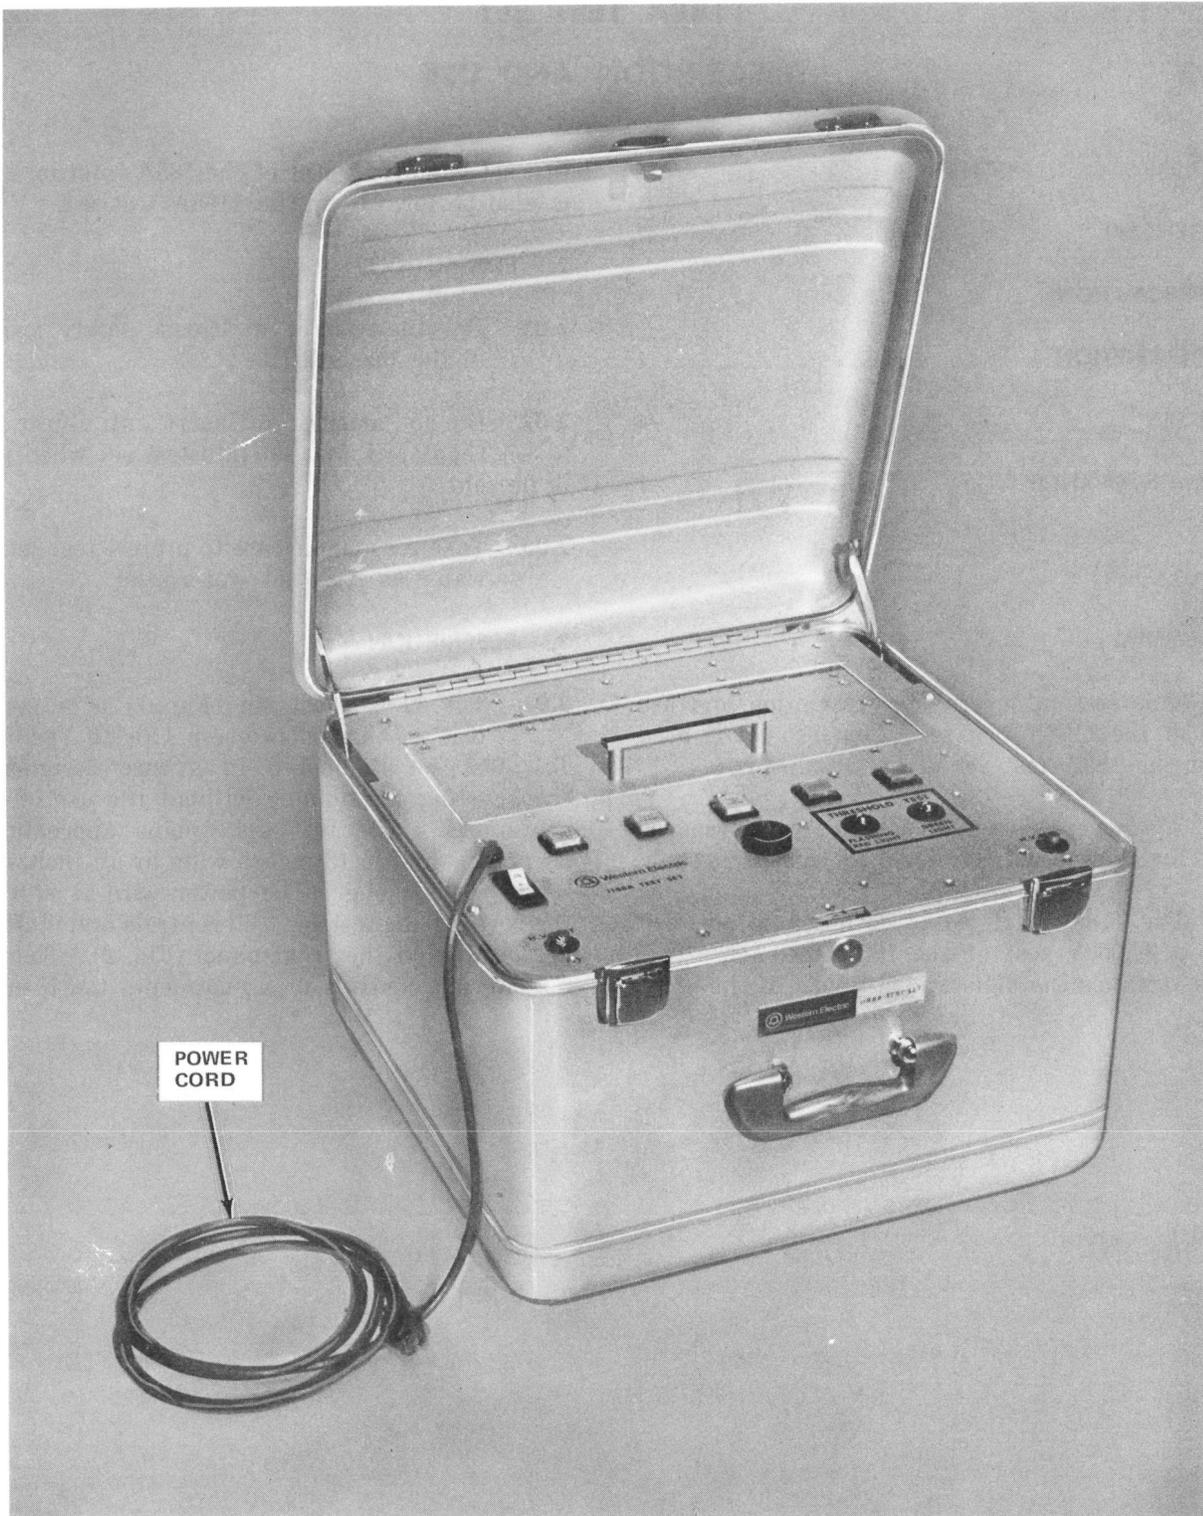
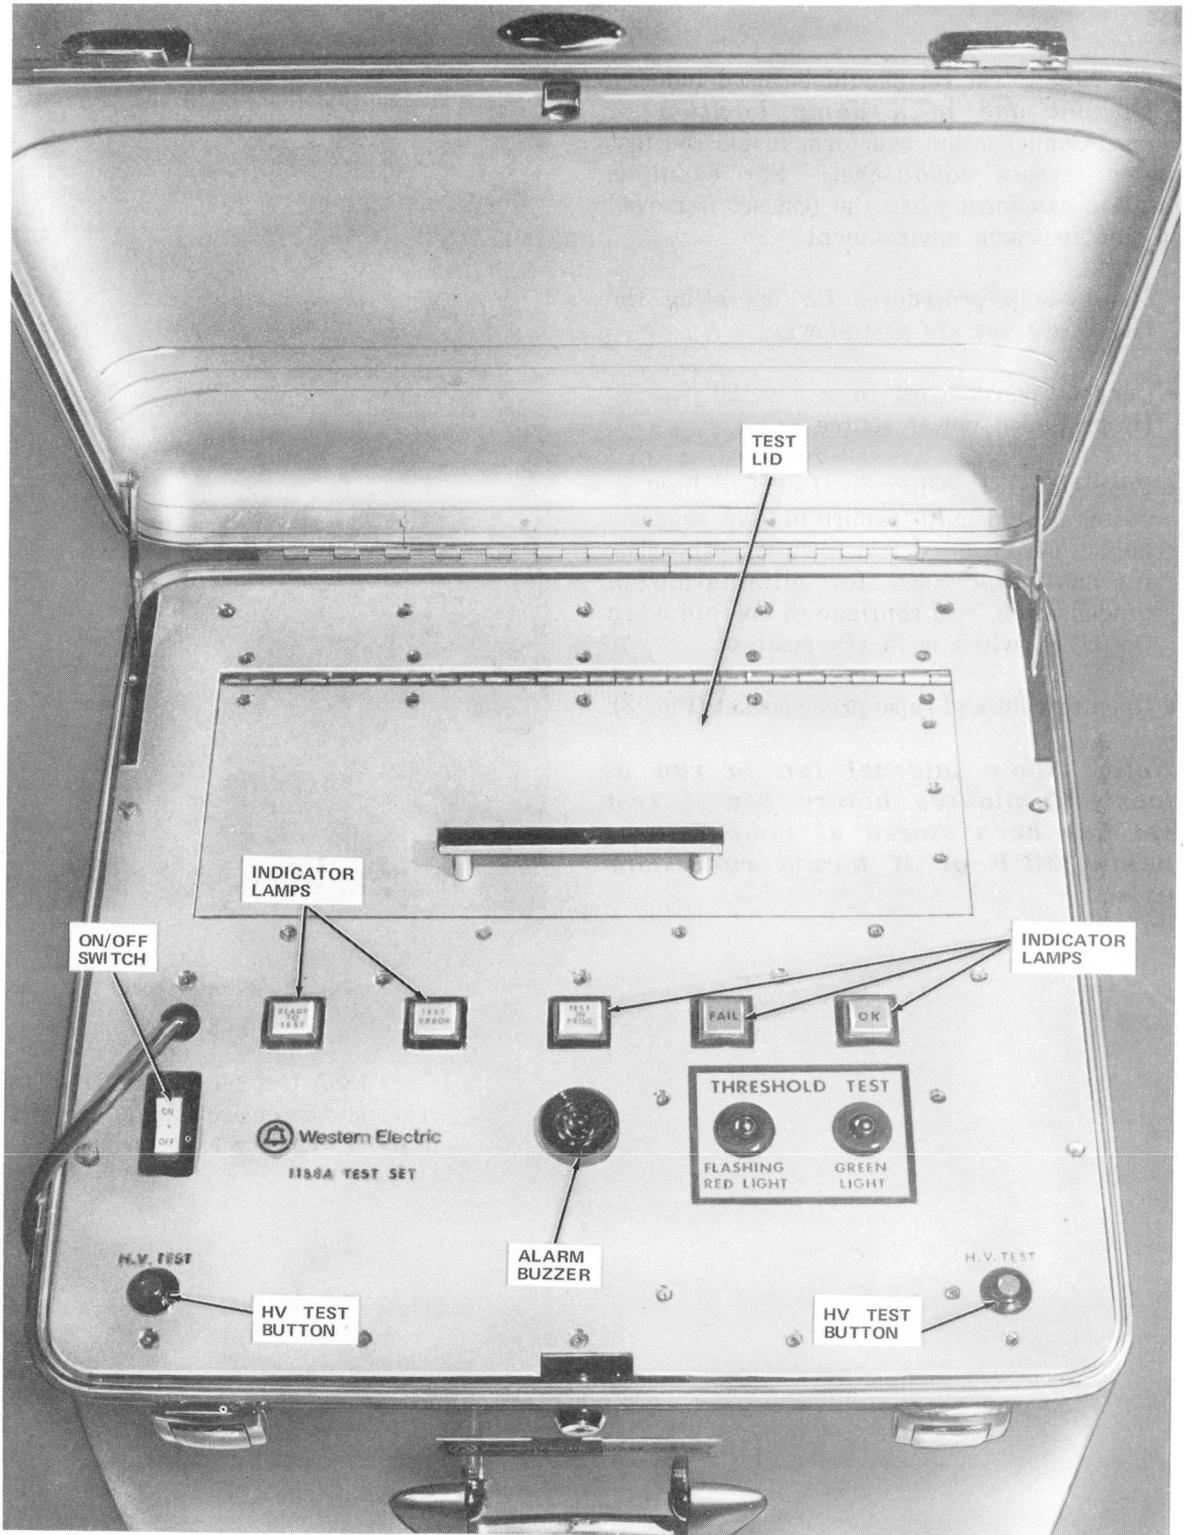

Fig. 1—1188A Test Set
Fig. 2—Front Panel
3.01 The 1188A test set (Fig. 1) is a portable test set that operates on 110-120 Vac 60 Hz. The test set is housed in a case designed for transporting or shipping without the use of other containers. The test set weighs approximately 39 pounds and is 18 inches wide by 12 inches high by 18 inches long. The power cord is stored in the cover of the test set. All controls and indicators are located on the front panel (Fig. 2). There are no internal controls or adjustments to be made.